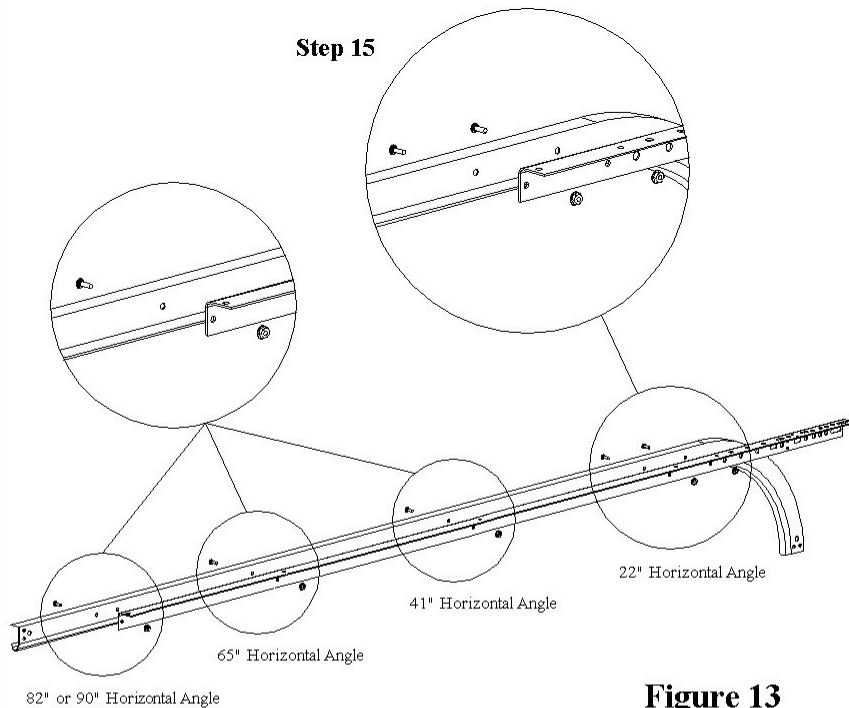

Figure 13
Install horizontal angle to horizontal track using 1/4"x5/8" track splice bolts and 1/4"-20 hex nuts (quantity based on angle length) (Figure 13). If not already done.
Attach the end of the horizontal angle to the flag bracket with (1) 3/8"x3/4" low shoulder carriage bolts and (1) 3/8"-16 hex nuts (Figure 13).